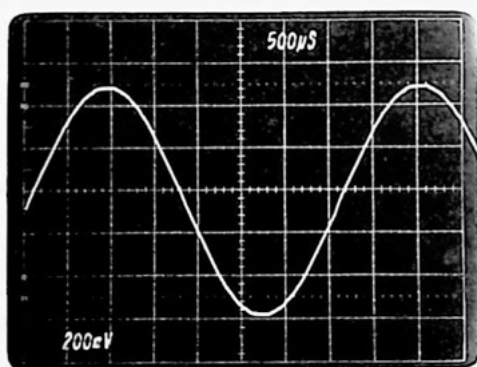

Figure 6-14
Step 26 — Execute the assembly language program as before by entering the command, EXEC 8000 (or 4000). Observe the oscilloscope display. You should observe the sine waveform pictured in Fig. 6-14.